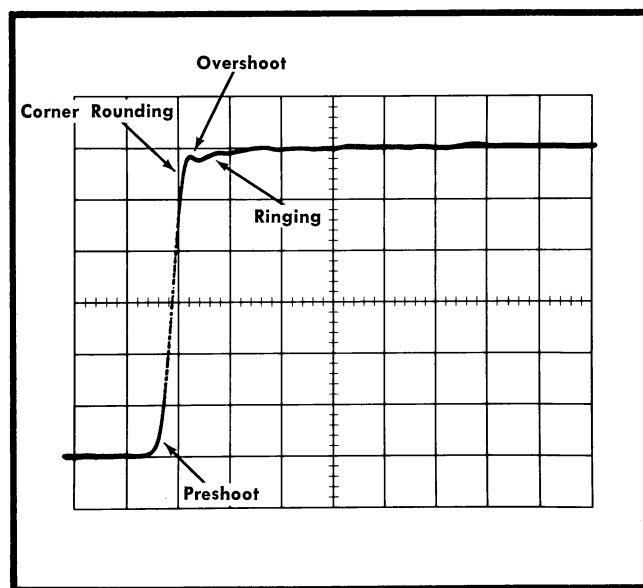

Fig. 6-18. Typical sampling-system display showing leading edge aberrations.
e. Check—Sampling-system display for preshoot 0.06 division or less (1% maximum; see Fig. 6-18).
f. Check—Sampling-system display for overshoot 0.24 division or less (3% maximum; see Fig. 6-18).
g. Check—Sampling-system display for corner rounding 0.3 division or less (5% maximum; see Fig. 6-18).
h. Check—Sampling-system display for ringing 0.24 division or less (3% maximum; see Fig. 6-18).